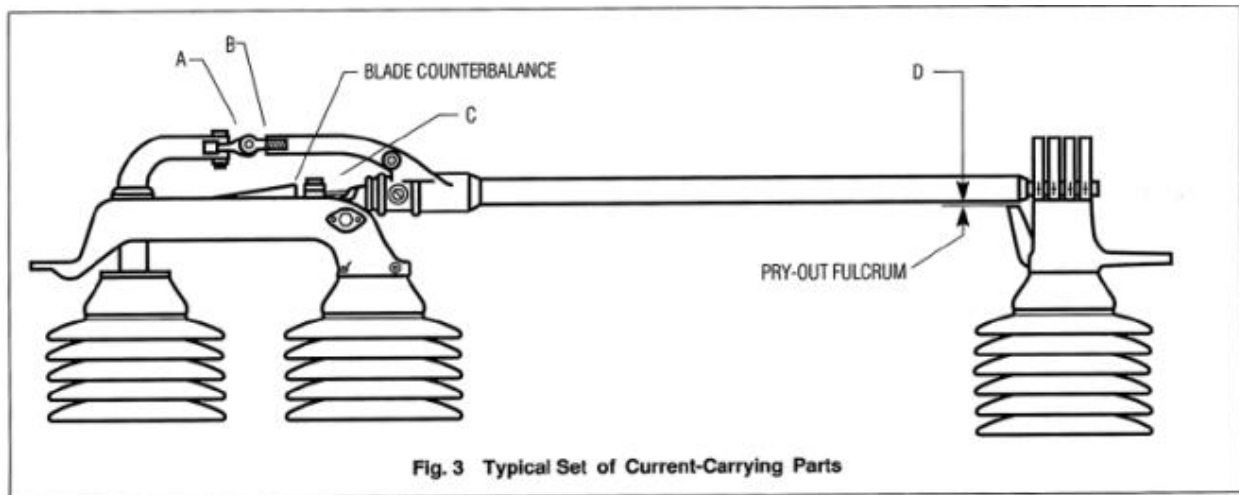

Fig. 3 Typical Set of Current-Carrying Parts
**CAUTION: When uncrating switches having blade counterbalances (Fig. 3), open the switch blade to relieve the pressure of the counter balance before removing the live parts from the base.**
**Caution:** When uncrating switches having blade counter balances (Fig. 3), be careful to keep linkage on dead center until the blade and hinge assembly have been bolted in place on the insulator columns. Otherwise, the counterbalance springs may collapse the hinge end toggle, possibly causing injury to workmen. Make certain that the base crank is in the proper position when mounting current carrying parts, i.e. base crank rotated to the maximum counter clockwise position with the blade closed. Care should be exercised when hoisting the blade hinge and jaw assemblies into position to prevent scratches or damage to these current-carrying parts. When assembling the jaws on the insulator columns, leave the mounting bolts finger tight. This will permit the jaw base to be rotated and shifted slightly for subsequent
**Blade Height in Jaw**—In Fig. 3, dimension (D) can vary from 0" to 5/8" with the switch in the closed position. It is not usually possible to get this dimension to be equal on all three poles of a three-pole switch. If it's necessary to adjust this dimension, remove connecting pin (A) and turn clevis (B) in or out 1/2 turn then reconnect and try switch. Turning the clevis in will move the blade away from the blade stop. Conversely, turning the clevis out will move the blade closer to the blade stop.
**Open Blade Stop**— On switches, there are stops for the blade in the open position, as shown at (C), Fig. 3. Some of these stops have flat washers that can be relocated to raise or lower this stop, while the voltage rated switches use treaded bolts with lock nuts. In either case,